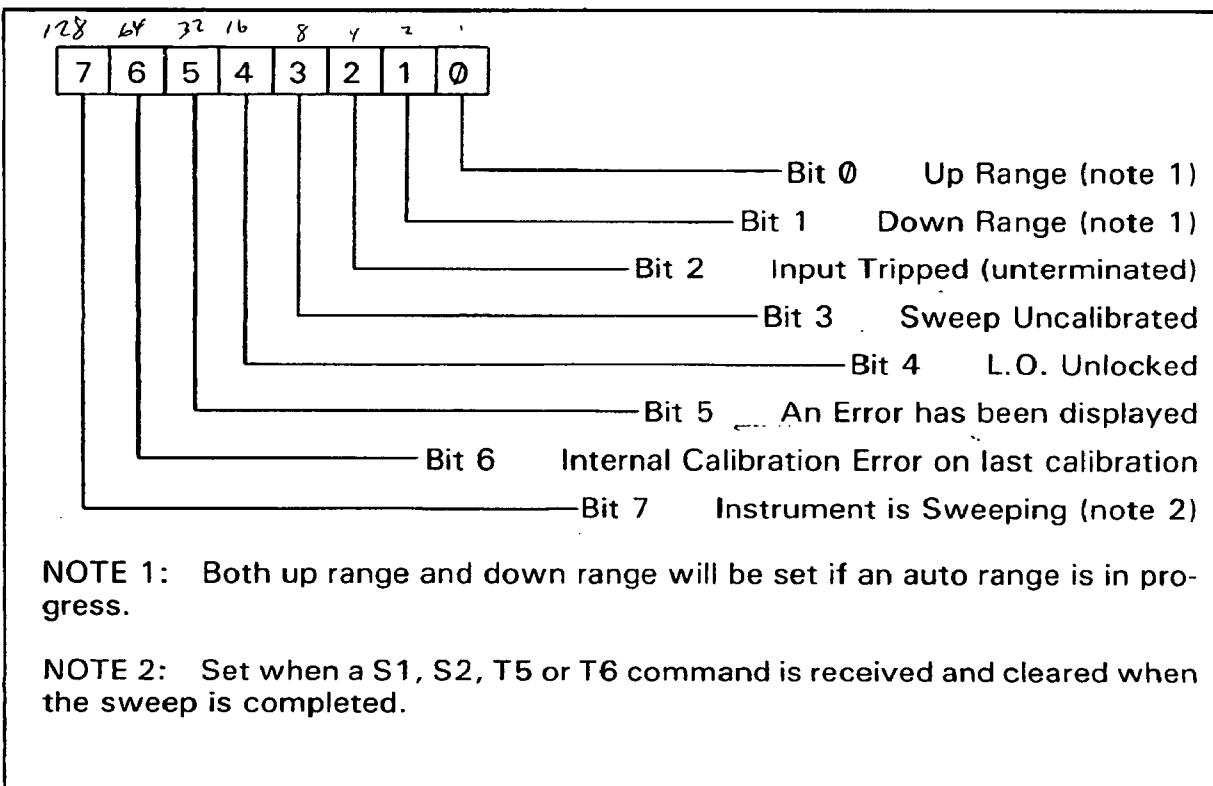

Figure 3-2-2. First Status Word For Dump Mode 6.
**D6**—Dump the Status registers. This output consists of two binary words. The first word contains the status bits as shown in Figure 3-2-2. The second status word, shown in Table 3-2-8, contains the code for the last error message that was displayed. Bits 4, 5 and 6 of the first word and the entire second word will be cleared with an Instrument Preset or a device clear. The appropriate bit of the status word will be set to a "1" if the condition is true. Bit 7 of the first status word is set by a S1, S2, T5 or T6 command. It is cleared when the sweep started by the sweep or trigger command is completed.